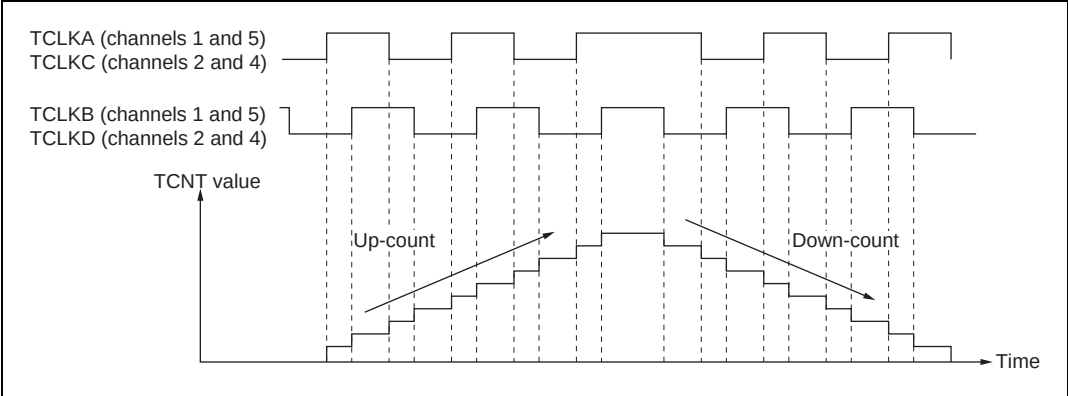

Figure 9.29 Example of Phase Counting Mode 1 Operation
- Figure 9.29 shows an example of phase counting mode 1 operation, and table 9.9 summarizes the TCNT up/down-count conditions.